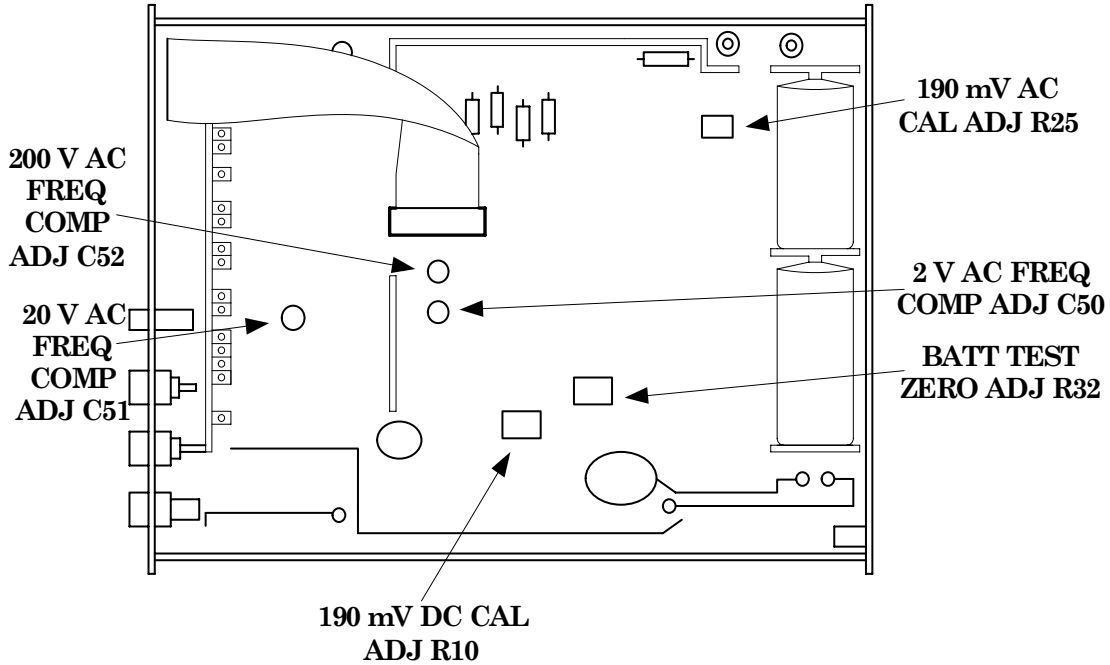

Figure 1. Test instrument - top view.
(4) Set calibrator output to minimum.
b. Adjustments. Set calibrator for an output of 0.1900 V and adjust 190 mV DC CAL ADJ R10 (fig. 1) until TI indicates 190.0 (R).
- (1) Set calibrator for an output amplitude of 190.00 mV and an output frequency of 94 Hz.
- (2) Adjust 190 mV AC CAL ADJ R25 (fig. 1) until TI indicates 190.0 (R).
- (3) Set calibrator for an output amplitude of 1.9 V and an output frequency of 5 kHz.
- (4) Adjust 2 V AC FREQ COMP ADJ C50 (fig. 1) until TI indicates 1.900 (twist the Teflon pair tighter to increase capacitance or incrementally cut twisted pair to reduce capacitance (R)).
- (5) Set calibrator for an output amplitude of 19 V and an output frequency of 5 kHz.
- (6) Adjust 20 V AC FREQ COMP ADJ C51 (fig. 1) until TI indicates 19.00 (R).
- (7) Set calibrator for an output amplitude of 190 V and an output frequency of 5 kHz.
- (8) Adjust 200 V AC FREQ COMP ADJ C52 (fig. 1) (twist the Teflon pair tighter to increase capacitance or incrementally cut the twisted pair to reduce the capacitance) until TI indicates 190.0 (R).
- (1) Adjust BATT TEST ZERO ADJ R32 (fig. 1) for a 0.000 indication on TI display.
- (2) Install new batteries.